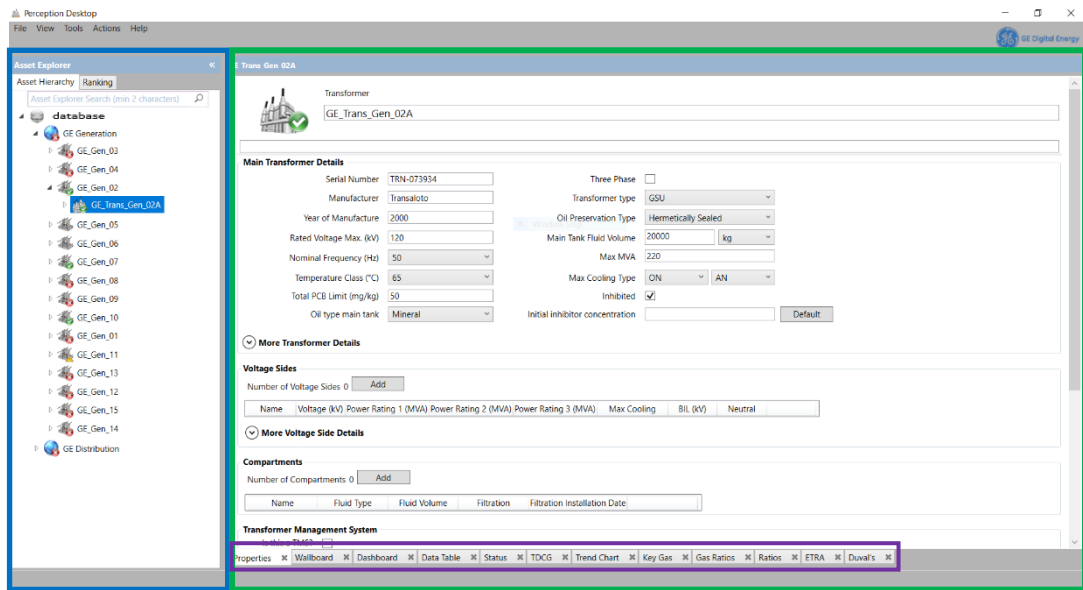

Figure 3-8: Perception Desktop main screen
The main screen of the Perception Desktop is divided into two parts as shown in Figure 3-8.
e.g. GE_Trans_Gen_02A to make it the active node (as highlighted in blue), and its details display in the Data Area to the right as shown in Figure 3-8.
The Data Area shows the corresponding details as calculated or retrieved from the database for the selected node in the hierarchy. For example, Figure 3-8 shows the details for the transformer GE_Trans_Gen_02A (as selected in the Asset Explorer).
The relevant data for the selected node is displayed across a series of tabs on the bottom of the screen (denoted by the purple border in Figure 3-8). The number and type of tabs vary according to the node. Selecting a tab opens the relevant tabbed page or worksheet.